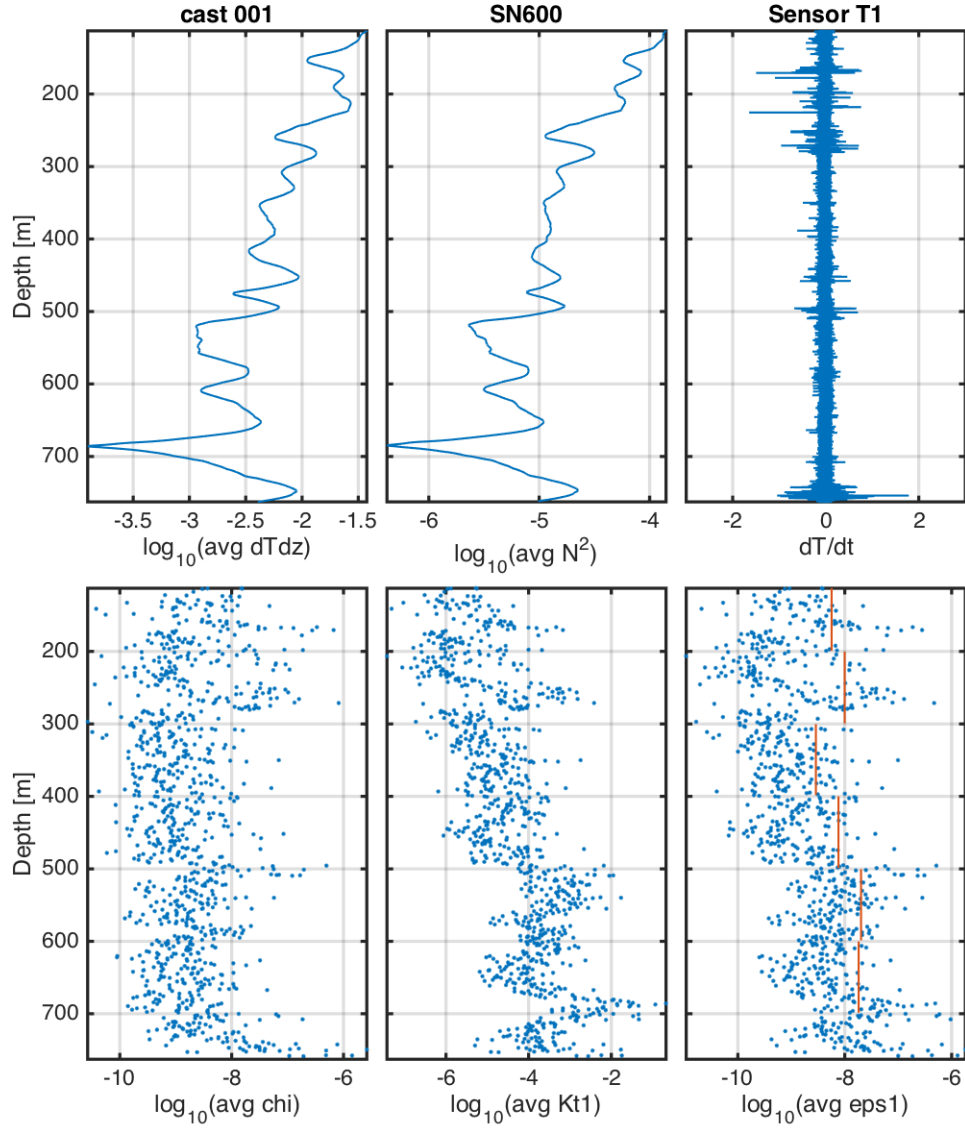

Figure 6: Results of chipod calculation for one cast. Red lines in lower panel are 100m? binned averages.
- `cast_001_upcast_chi_SN600_T1_avg_chi_KT_dTdz` (Figure 6)